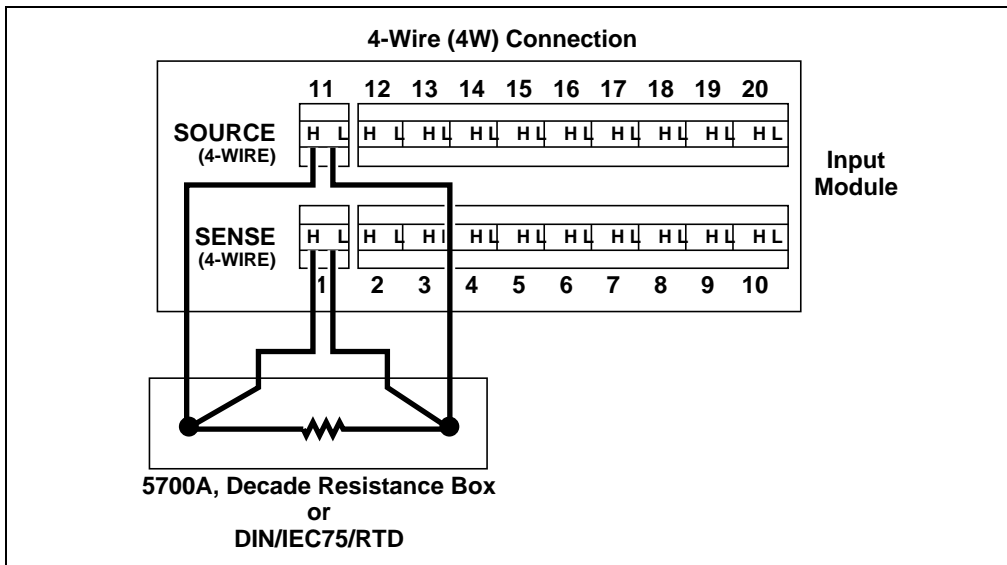
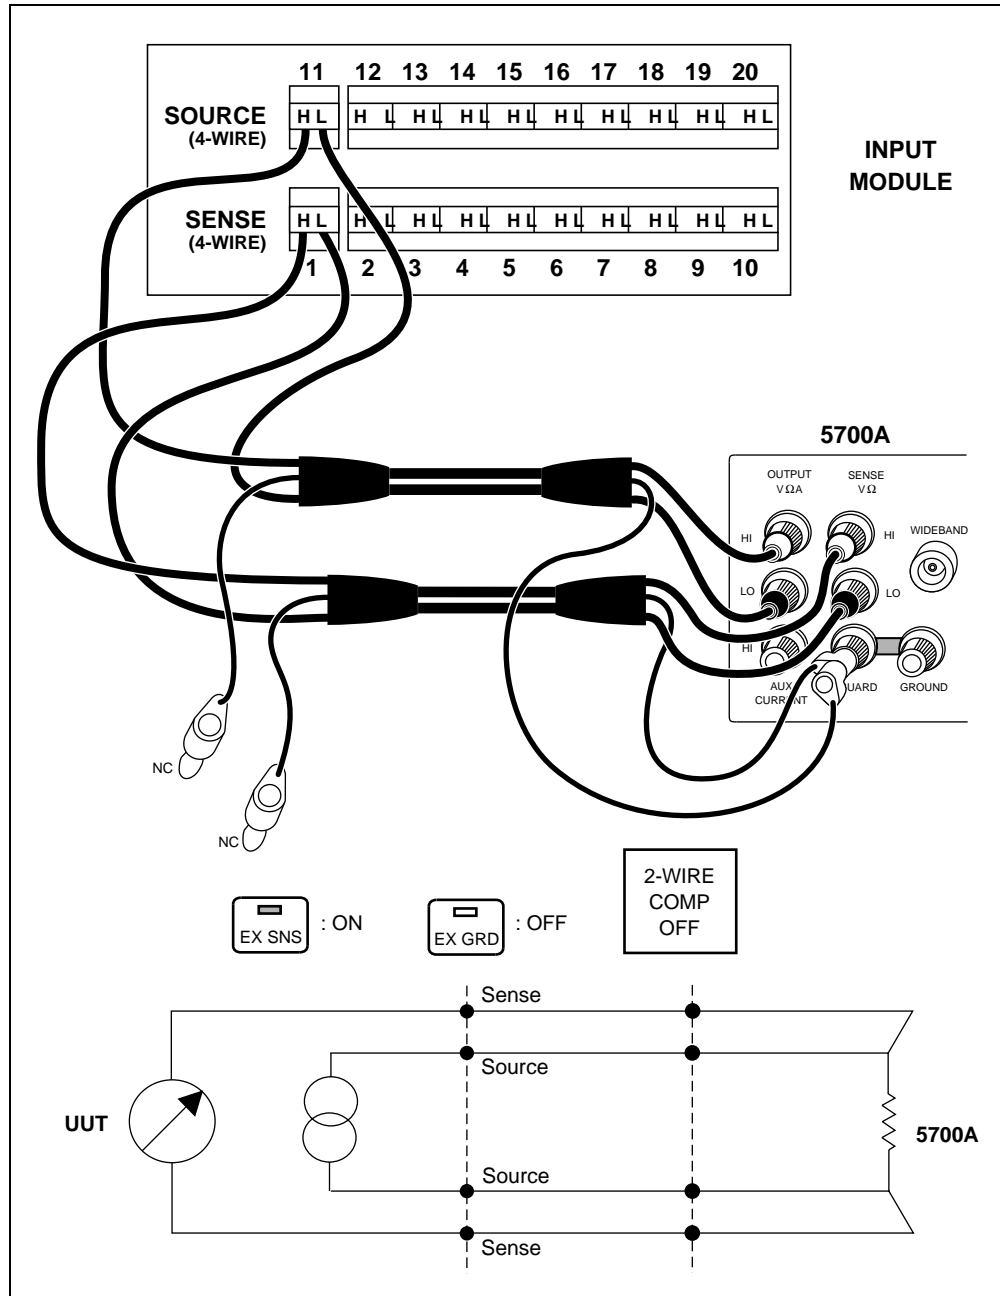

Figure 4-3. 4-Wire Connections to the Universal Input Module (Resistor)
Figure 4-4. 4-Wire Connections to the Universal Input Module (5700A)
1. **Connect the Resistance Source to Channels 1 and 11** Remove the Universal Input module from the device and connect a cable from the Decade Resistance Source to the Universal Input module terminals for channel 1 (Sense) and channel 11 (Source) as shown in Figure 4-3. Reinstall the Universal Input module. You may also use the 5700A resistance calibration output instead of the Decade Resistance Source. Tables are provided for both connections. Refer to Figure 4-4 for the 5700A 4-wire connections.